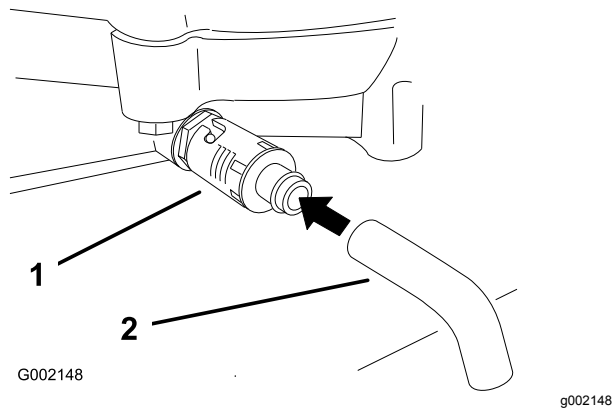

Figure 17
4. Place a pan below the drain. Rotate the oil drain valve to allow the oil to drain (Figure 17).